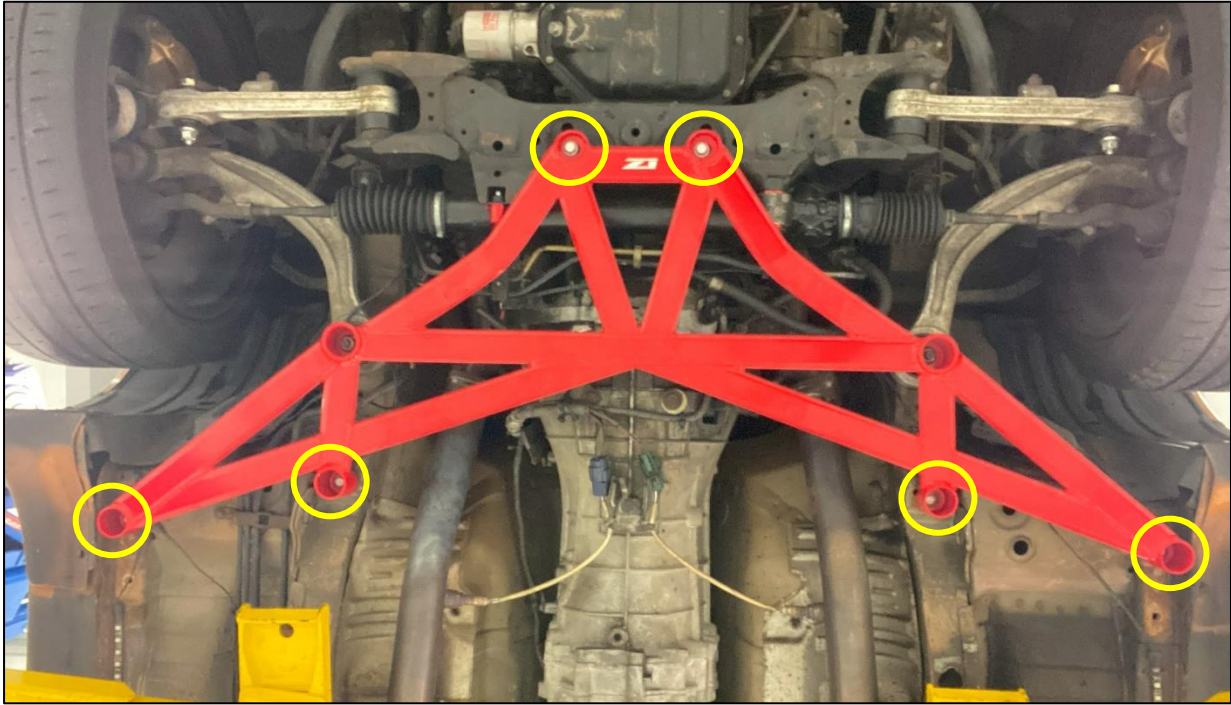

Figure 2
4. Locate the new Z1 Front Subframe Brace and the (6) six M10 x 1.25 bolts. Position the new Brace on the vehicle and secure with the (6) six bolts in the locations circled below. Torque the bolts to **47 ft-lbs.** *Figure 2.*